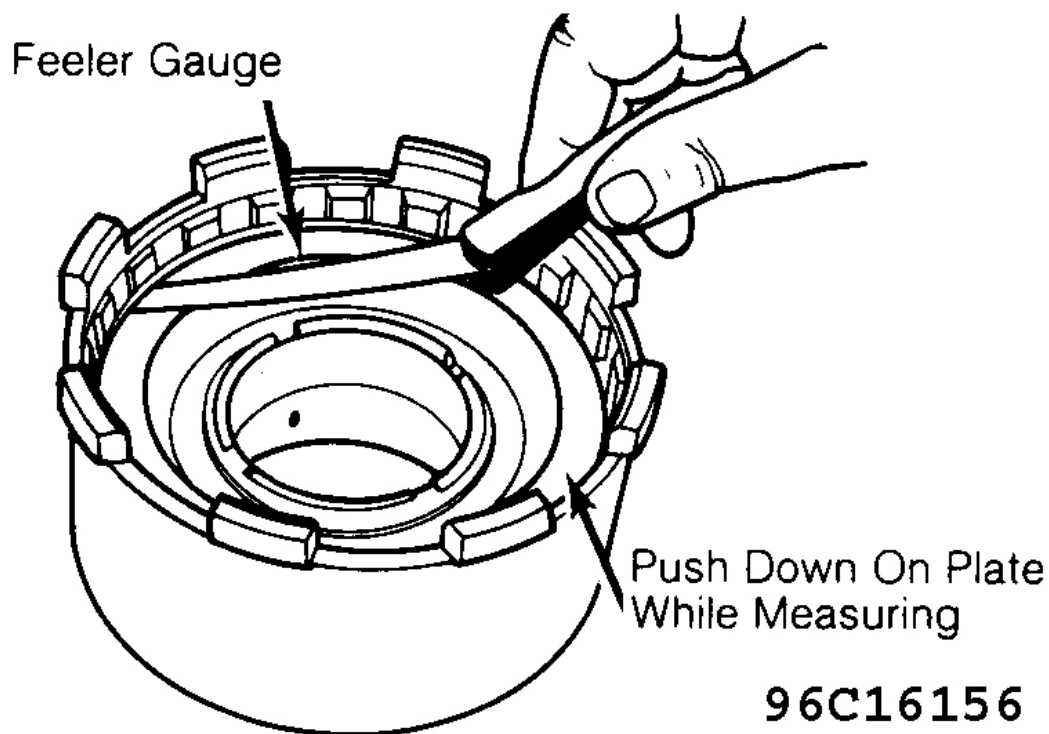

Fig. 25: Reverse-High Clutch Pressure Plate Clearance
4. Alternate composition and steel plates until all clutch plates are installed. Last plate installed is thick pressure plate. Install pressure plate and secure with snap ring. Push down on pressure plate. Measure clearance between pressure plate and snap ring with feeler gauge. See **Fig. 25** . Clearance should be .054-.082" (1.39-2.11 mm).